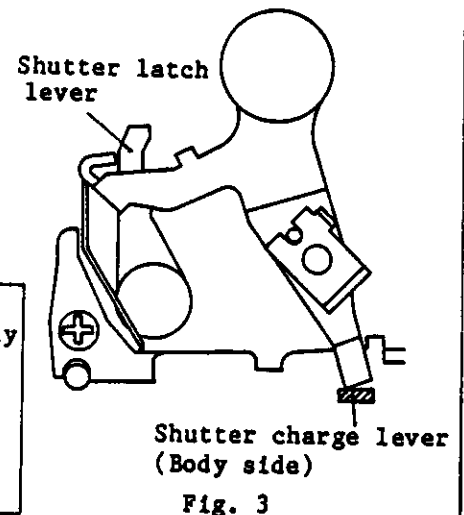

Fig. 3
- (1) Mount shutter set lever on shutter lever charge lever (See Fig. 3)